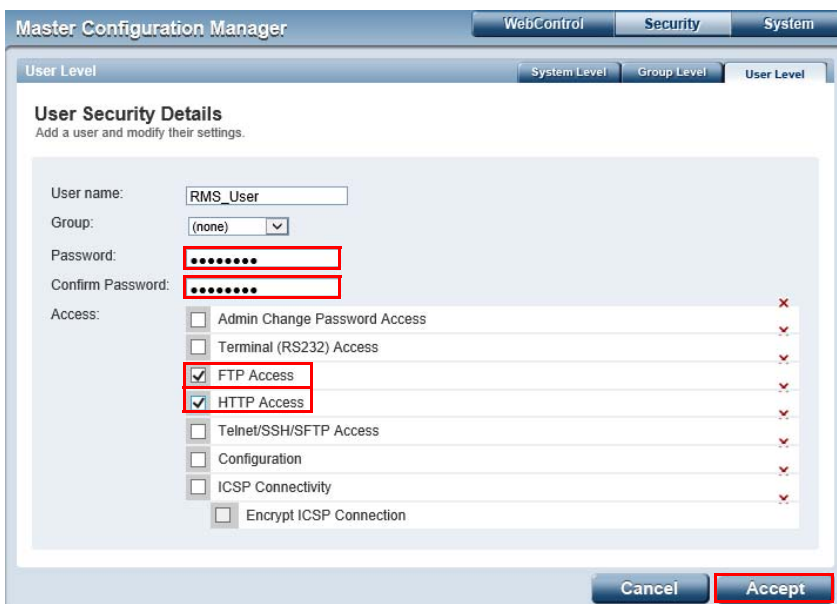

FIG. 104 NI Master WebConsole - User Security Details
2. Click **+ Add New User** to create a new user on the NI Controller via the options presented in the *User Security Details* page (FIG. 104):
The User Name and Password that were assigned to this new User (FIG. 104) must be entered on each touch panel in the RPM System that you want to send the Logo via the *RPM Configuration Manager*, as described in the next section.